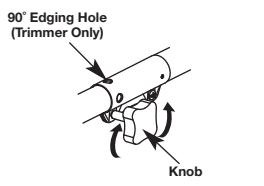

Fig. 14
- Turn knob counterclockwise to loosen (Fig. 14).
- Turn the knob clockwise to tighten (Fig. 14).
For edging (when using the line head cutting attachment with EZ-LINK® models), lock the release button of the cutting attachment into the 90° edging hole (Fig. 14).
- Turn the knob counterclockwise to loosen (Fig. 14).